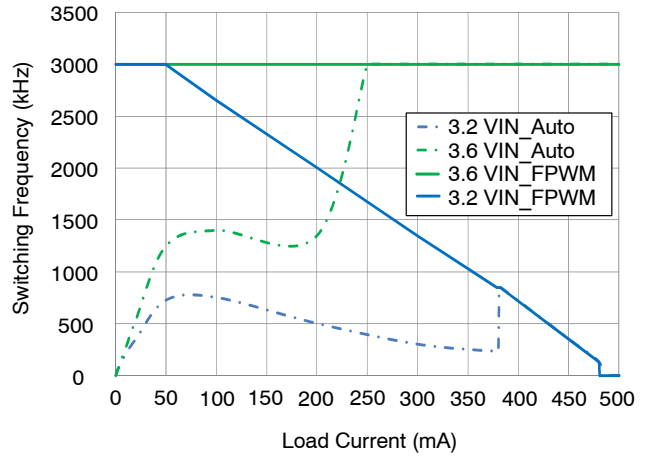

Figure 8. Effect of  $t_{OFF(MIN)}$  on Reducing Switching Frequency
5. Limited by the effect of  $t_{OFF}$  minimum (see Figure 8 in Typical Performance Characteristics).